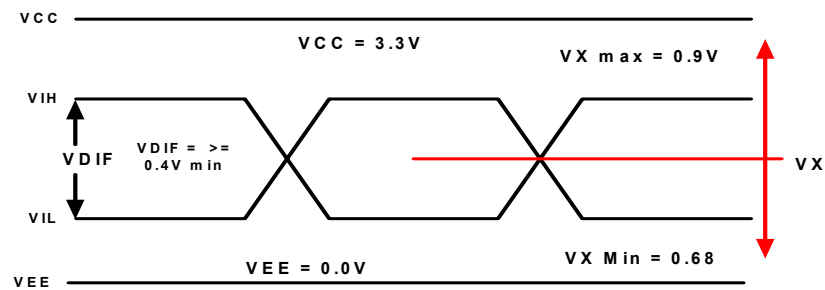

Figure 2. HSTL Differential Input Waveform Definitions
- $V_X(AC)$ is the crosspoint of the differential HSTL input signal. Normal AC operation is obtained when the crosspoint is within the $V_X(AC)$ range and the input swing lies within the $V_{DIF}(AC)$ specification. Violation of $V_X(AC)$ or $V_{DIF}(AC)$ impacts the device propagation delay, device and part-to-part skew. Refer to Figure 2.